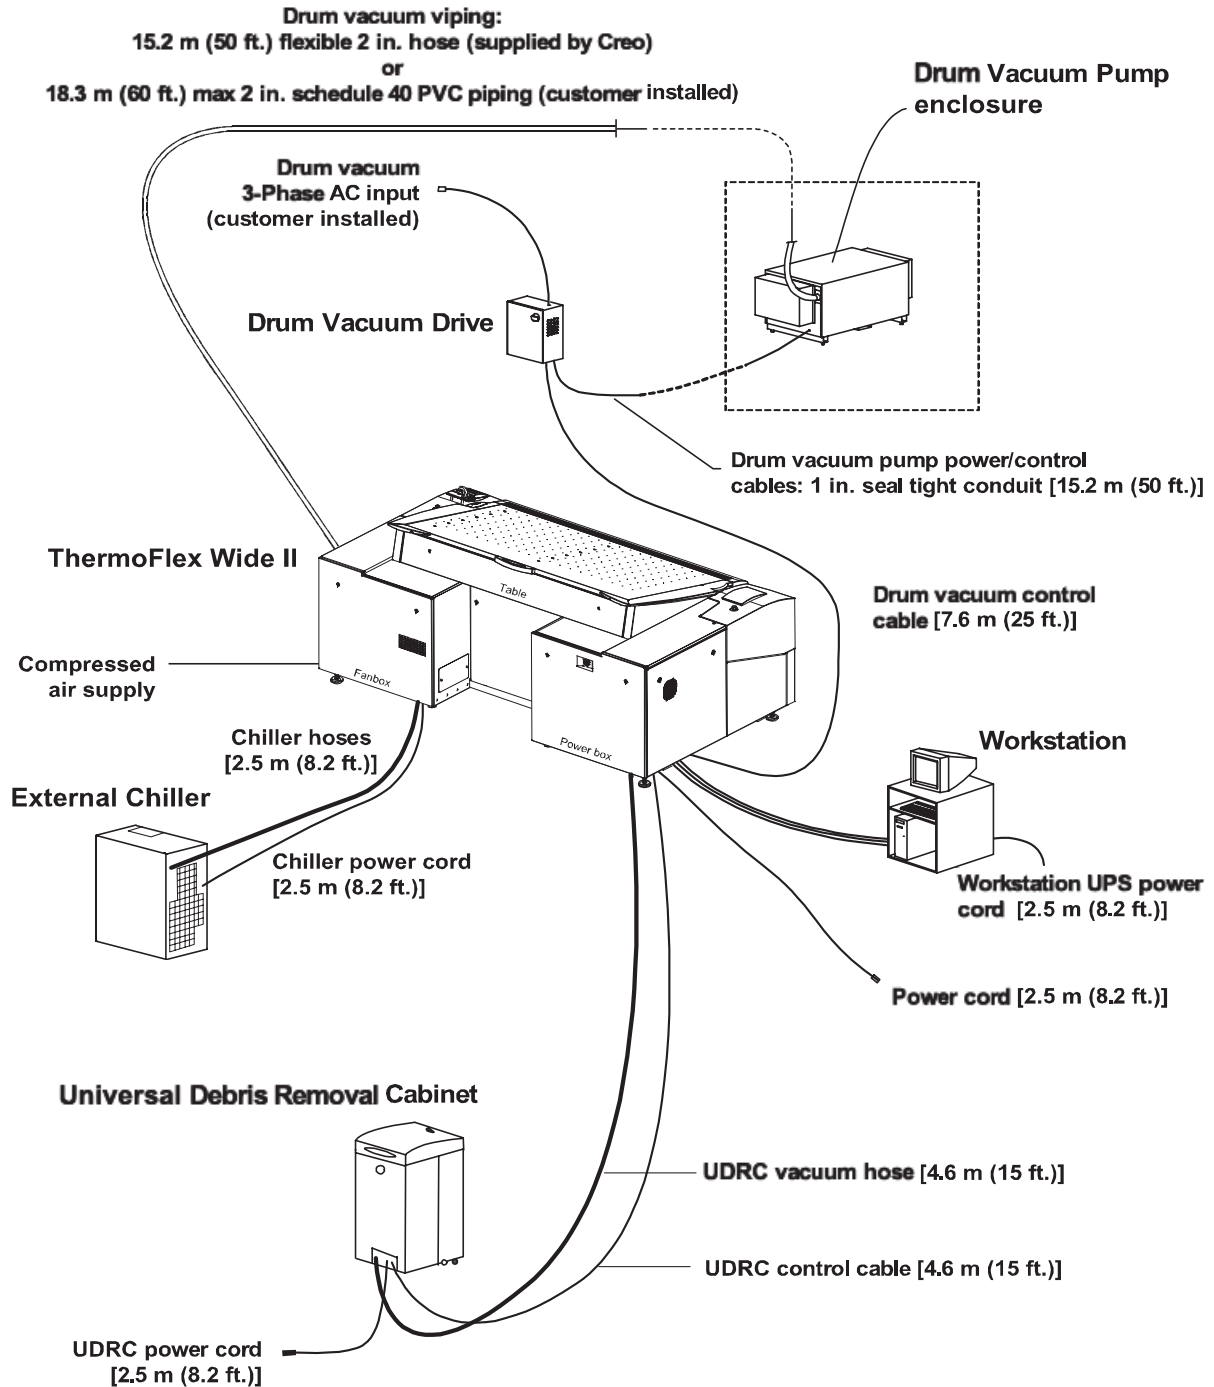

Figure 1: ThermoFlex Wide II system connections
Tables 2-4 list the supplied and required cables and connectors for the output device. Table 5 lists the power/air connections. An overview of the system connections is shown in Figure 1 on page 8.
a. For a diagram of system connections, see Figure 1 on page 8.